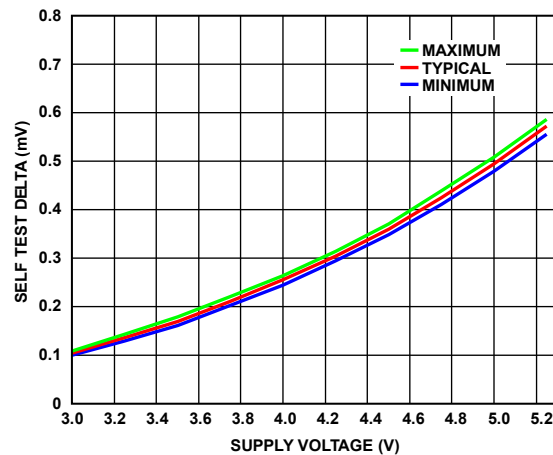

Figure 21. Typical Self Test Delta vs. Supply Voltage
4. Subtract the two readings and compare the result to the expected value from Table 1, while factoring in the response curve due to supply voltage, if necessary, from Figure 21.